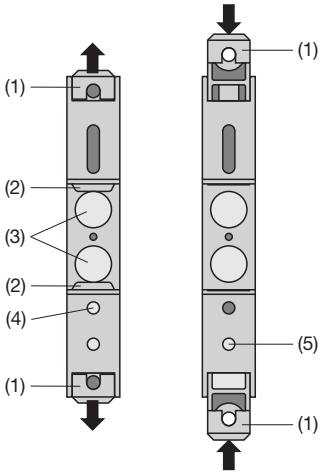

Fig. 6. Rear of device.
While pressing the latch (4) in the base of the device (Fig. 6, left) pull out the isolating amplifier securing brackets (1). To return the brackets to their original positions, the latch (5) in the base of the device has to be depressed before applying pressure to the securing brackets (1) (see Fig. 6, right).